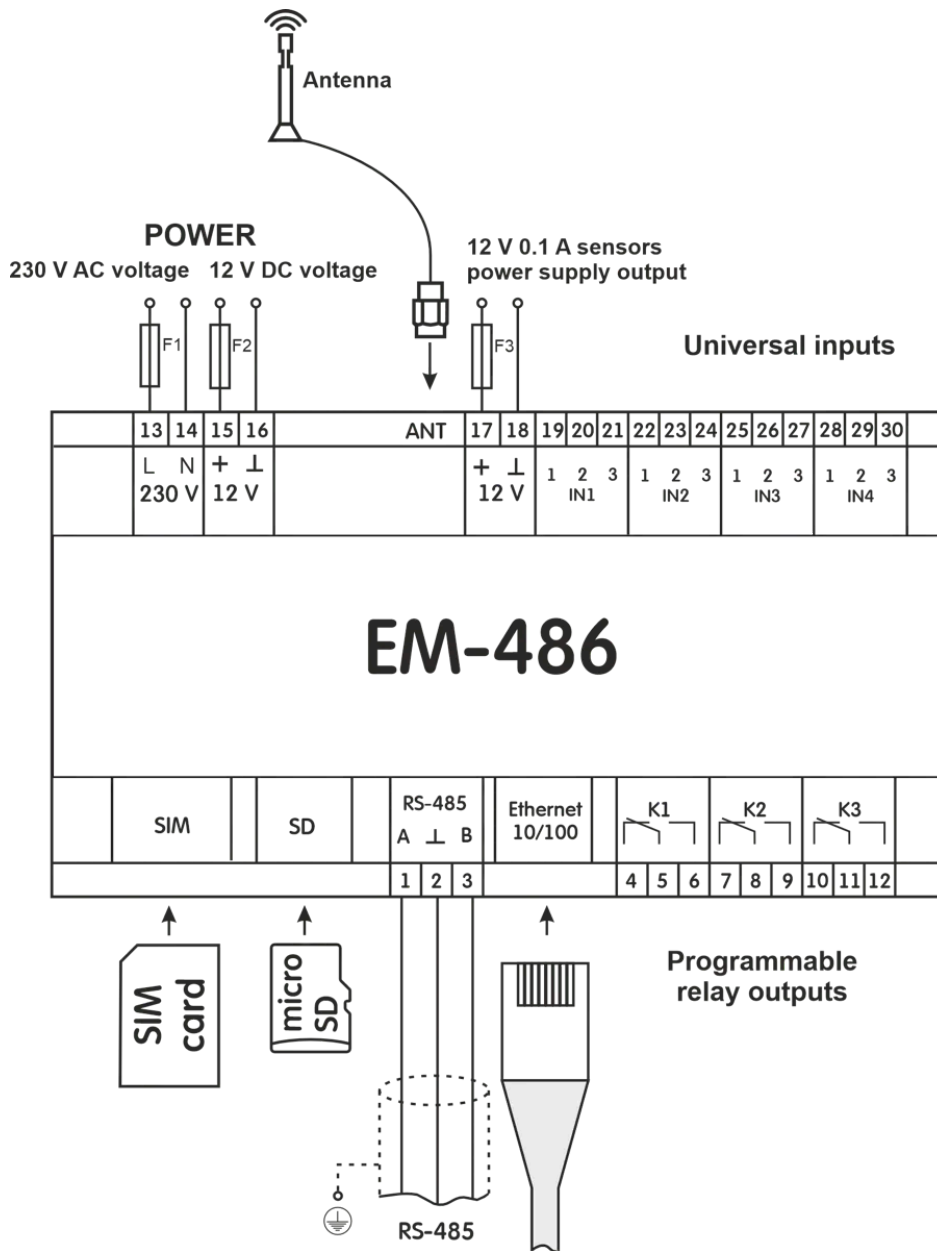

Figure 5.1 – The Device connection diagram
To improve operational properties of the device it is recommended to install the F1-F3 fuse (fuse element), or the equivalent in power supply circuit for EM-486 (see Fig 5.1).
1. The device is switched according to the diagram, see Fig 5.1.